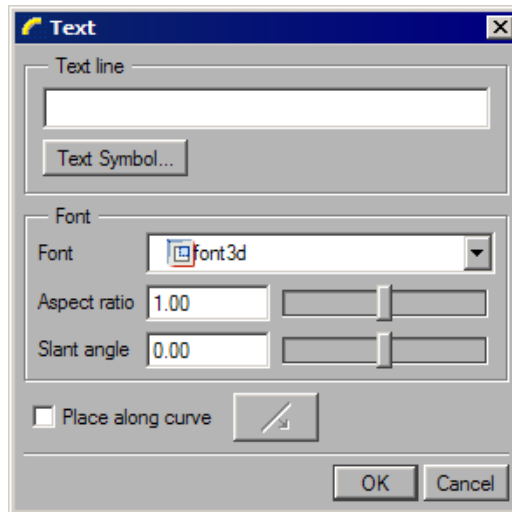

Figure 2-17 The Text dialog
3. Note that to write the text upright, the second point should be above the start point and in a straight line. If the second point is below the start point, the text will be written upside down. Specify the second point on the screen by clicking; the **Text** dialog box is displayed, as shown in Figure 2-17.